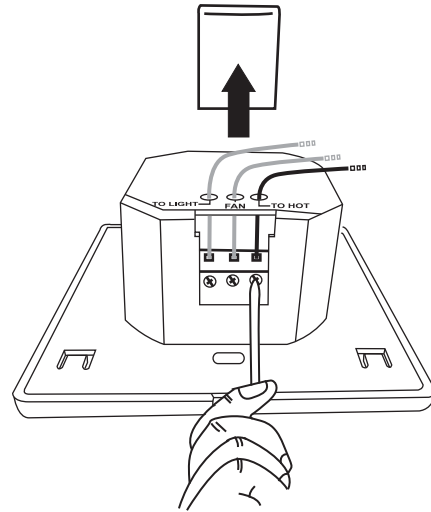

Figure 19
2. Make speed control wire connections (Fig. 19). Ensure that bare wires are fully inserted into their terminals with no loose strands and that terminal screws are fully tightened.